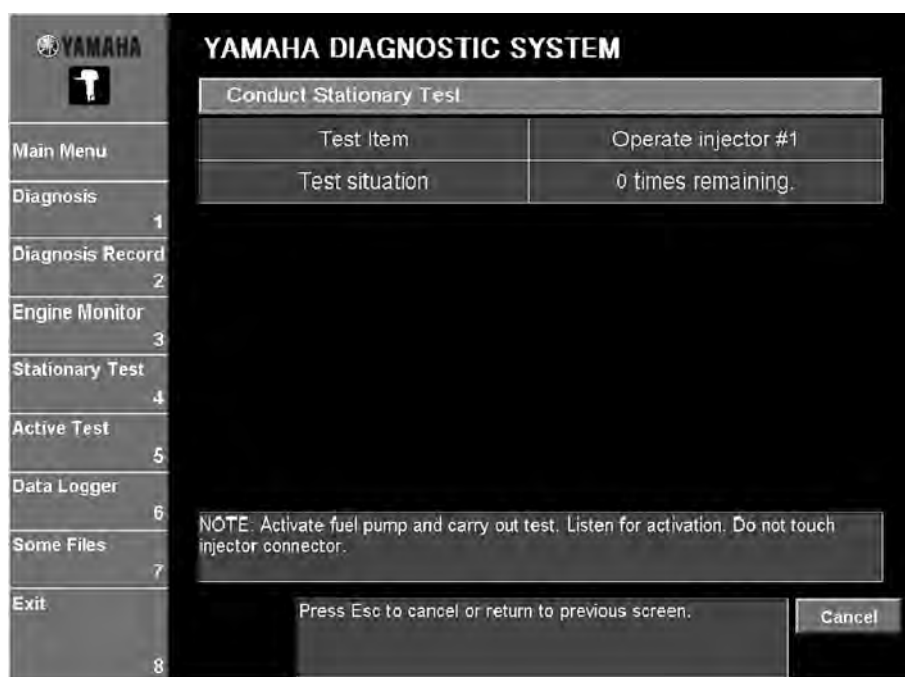

Fig. 75
5. To perform the test again on the same cylinder, click the **Execute** button or press the Enter key on your keyboard. To perform the test on a different cylinder, click the **Return [ESC]** button or press the Esc key on your keyboard to return to the window where a different test can be selected. (Fig. 75)